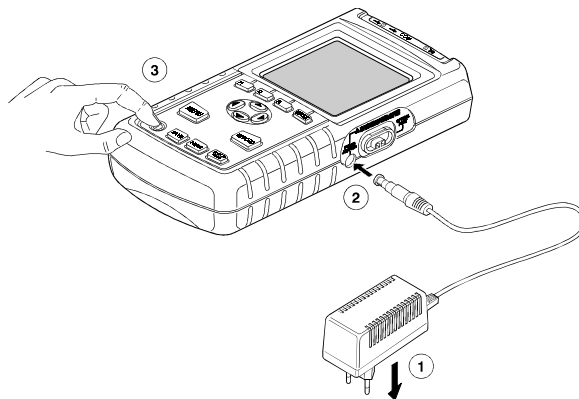

Figure 2. Powering the Fluke 43
- 2 Connect the power adapter cable to the Fluke 43 (see Figure 2).